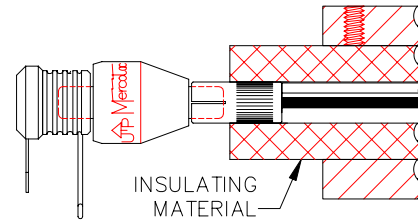

Fig 5 Thermal Insulation
7. The connector contains plastic materials that are sensitive to heat. Over heating will cause reduced life or connector failure. Provide thermal insulation where necessary to prevent temperature of the unit from exceeding 140°F (60°C). <Fig 5>